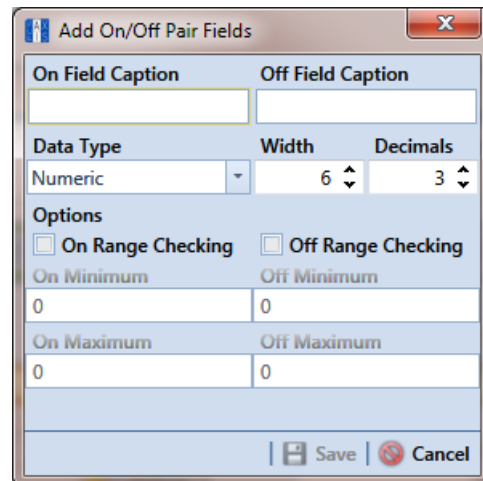

Figure 3-60. Add On/Off Pair Fields
- 4 Click  **On/Off Pair** in the toolbar to open the *Add On/Off Pair Fields* dialog box (Figure 3-60).
- 7** If you selected the *Numeric* data type earlier in **step 6** (page 110), set the length of the field using the **Width** and **Decimal** fields (Figure 3-60, page 110).